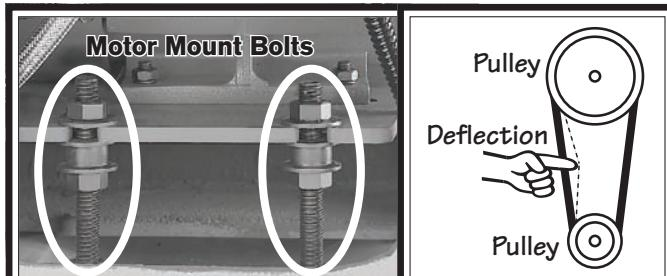

Figure 137. V-belt adjustment.
3. Turn the hex nuts on the motor mount bolts shown in **Figure 137** to move the motor mount plate up or down and adjust the V-belt tension. When correctly tensioned, each belt should have about  $\frac{3}{4}$ " deflection when pressed firmly (see **Figure 137**).
3. Remove the motor cover shown in **Figure 137**.